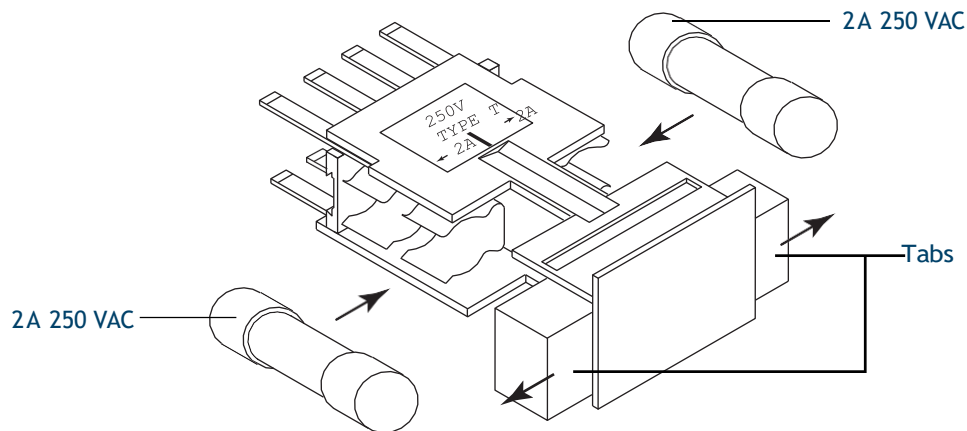

Figure 85. Proper fuse orientation
- 6 Install the new fuses (Figure 85).